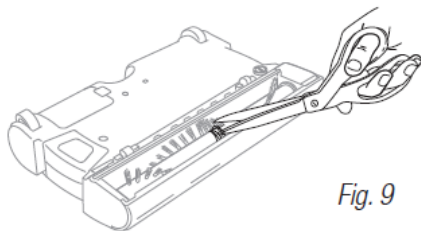

Fig. 9
3. Remove all hair, string or fibers wrapped around the brush bar. Using a pair of scissors, carefully cut along the raised guide to remove anything wound around the brush bar. Avoid damaging or cutting the bristles. (Fig. 9)